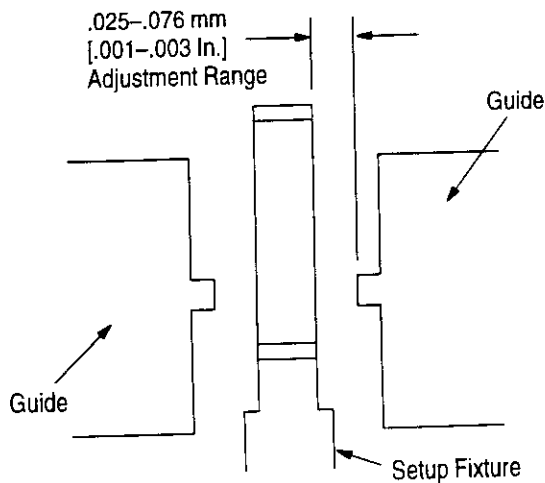

Figure 6
6. Position the inserter assemblies so that there is .025-.076 mm [.001-.003 in.] clearance between the setup fixture and the guides. See Figure 6.